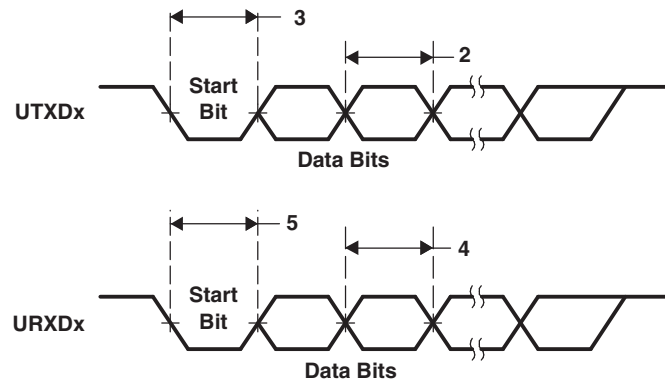

**Figure 7-89. UART Transmit/Receive Timing**
**Table 7-129. Timing Requirements for UARTx Receive(1) (see Figure 7-89)**
(1) U = UART baud time = 1/programmed baud rate.
**Table 7-130. Switching Characteristics Over Recommended Operating Conditions for UARTx Transmit(1) (see Figure 7-89)**